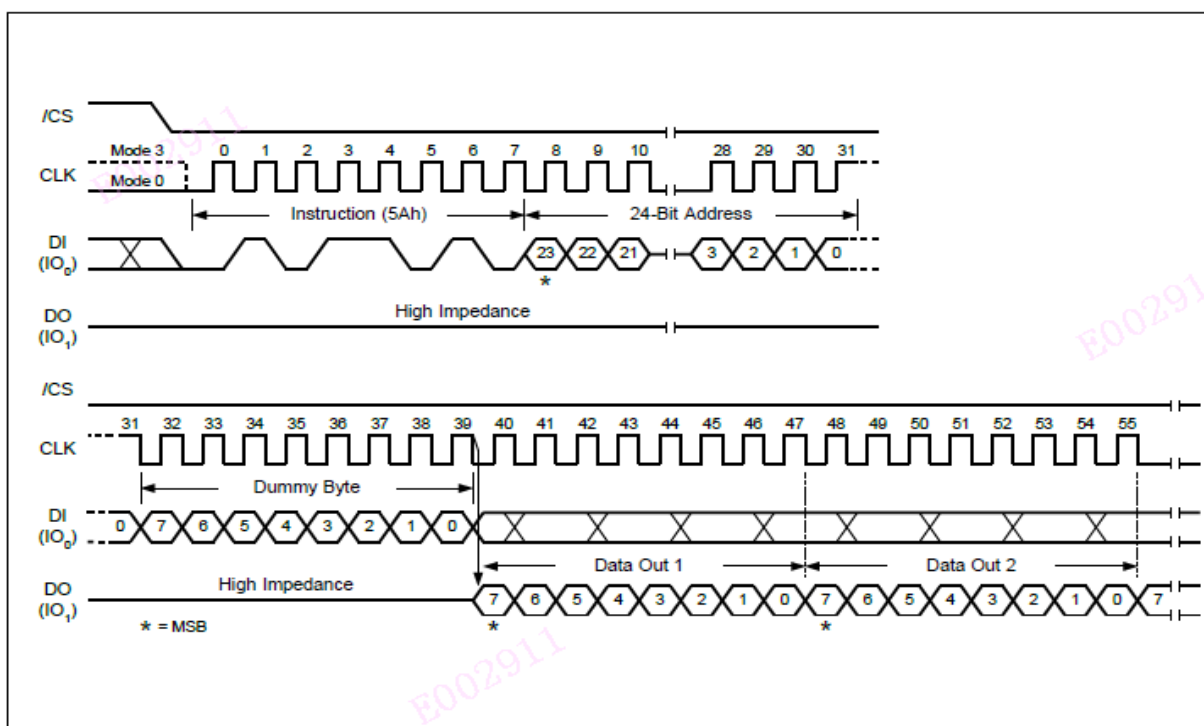

Figure 34. Read SFDP Register Instruction Sequence Diagram
The Read SFDP instruction is initiated by driving the /CS pin low and shifting the instruction code “5Ah” followed by a 24-bit address (A23-A0)(1) into the DI pin. Eight “dummy” clocks are also required before the SFDP register contents are shifted out on the falling edge of the 40th CLK with most significant bit (MSB) first as shown in Figure 34. The byte address is automatically incremented to the next byte address after each byte of data is shifted out. The last byte address of the register is FFh (the data will always be FFh when read after the last address), For SFDP register values and descriptions, please refer to the following SFDP Definition Table.